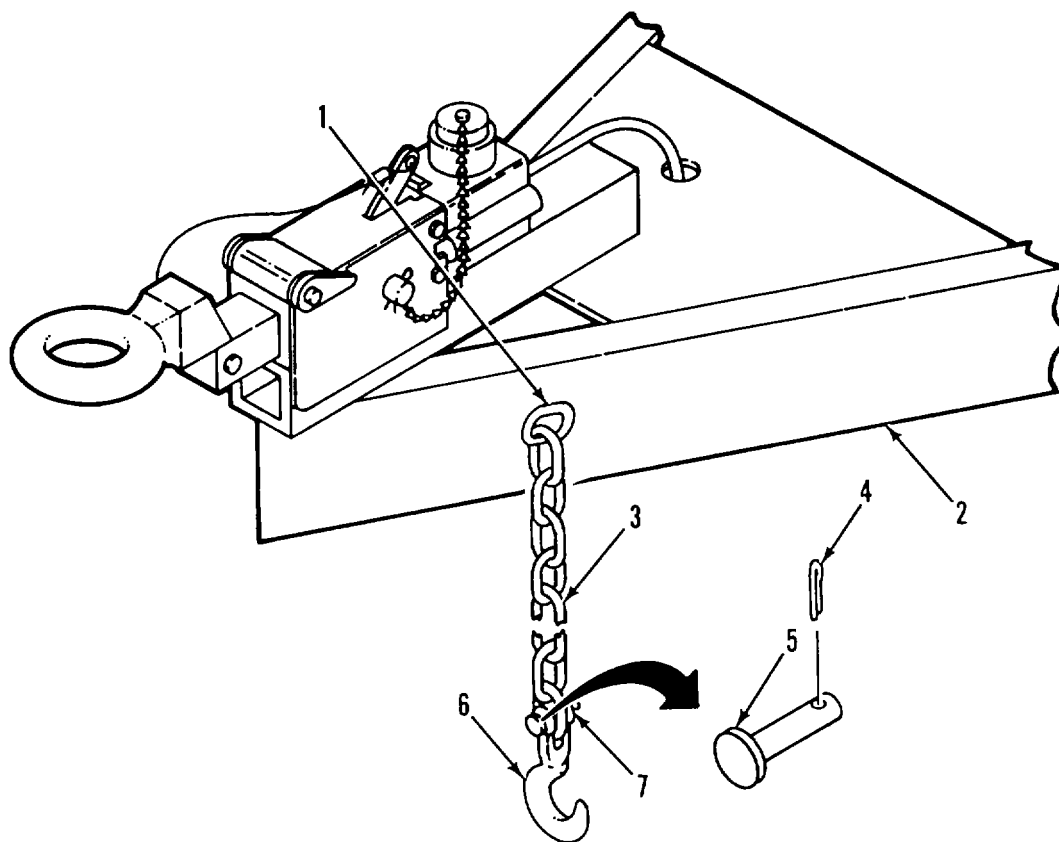

Figure 3-36. Safety Chains
a. REMOVE. (Figure 3-36)
- (1) Using torch, cut weld holding chain link (1) to trailer chassis (2).
- (2) Remove safety chain (3).